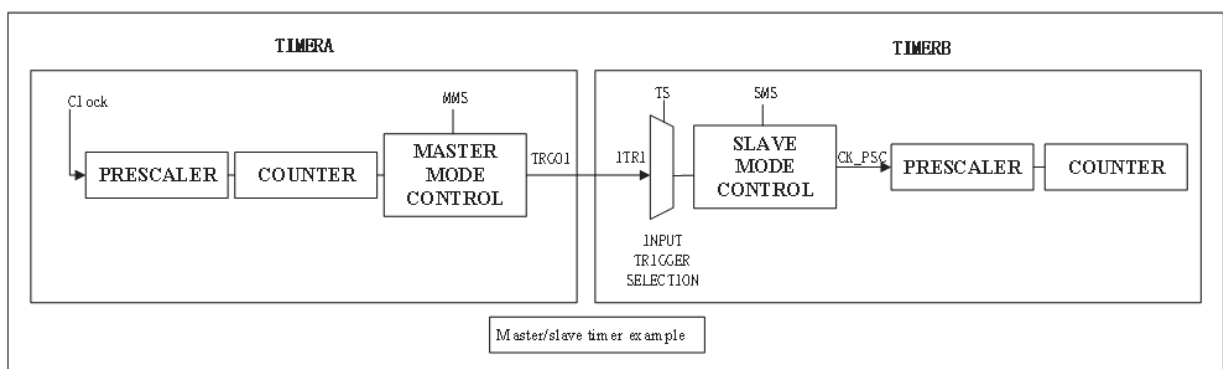

Figure 0.32 Master/Slave Connection
4. Internal Trigger Input (ITR): Use the general-purpose timer PWM1 as the prescaler for advanced timer PWM0. For more information, please refer to Figure 0.32 Master/Slave Connection for more information.
Figure 8.33 shows that Timer B is enabled by the comparison output of Timer A. Please refer to the following diagram for the connection of the timers Figure 0.32 Master/Slave Connection. Timer B only counts according to its own drive clock when the OC1REF signal of Timer A is high. Both timers use a  $f_{MASTER}$  with prescaler factor of 4 as the clock ( $f_{CK\_CNT} = f_{MASTER}/4$ ).
Timer A is enabled using the rising edge of TI1, and Timer B is enabled at the same time. Timer is connected as shown in *Figure 0.32* Master/Slave Connection. To maintain the timer link, Timer A needs to be configured as master/slave mode (slave mode for TI1 signal and master mode for Timer B).